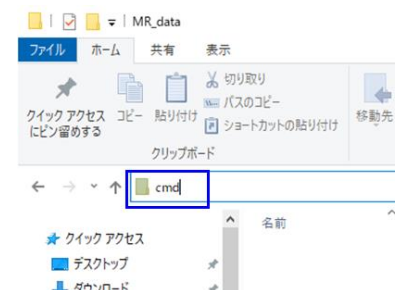

Fig. 3.5 Launching the command prompt
2. Open the folder where the MR file is saved as shown in Figure 3.5, type "cmd" in the address bar and press "Enter" key.